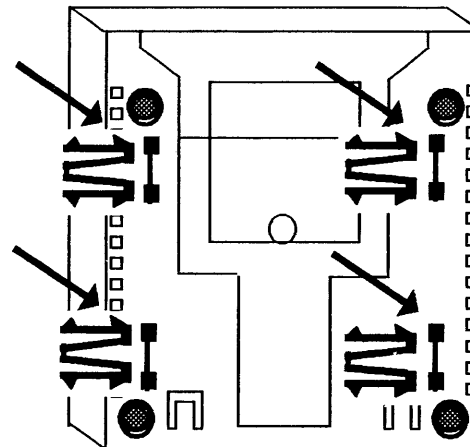

Figure 19. Bottom View of the Drive Assembly
1. Carefully turn the drive over and insert the tops of the "M" shaped clips into the bottom of the unit as shown in Figure 19.
1. Carefully turn over the cartridge tape drive and insert the tops of the "M" shaped clips into the bottom of the unit as shown in Figure 19.